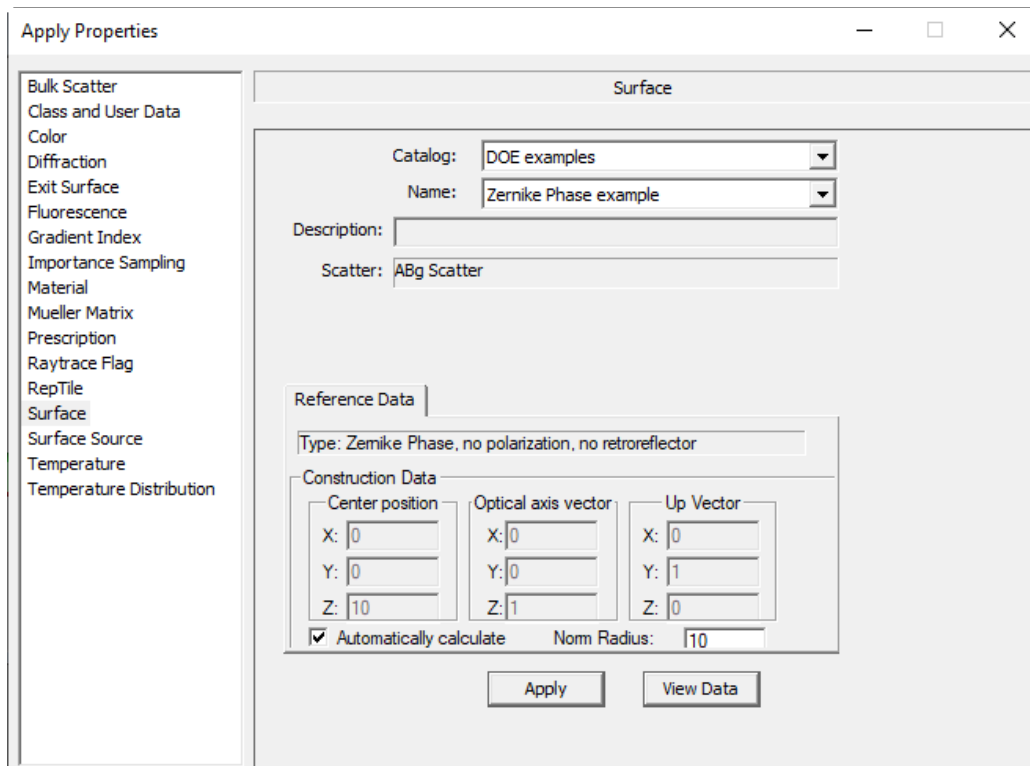

Figure 15. コンストラクションデータに対して自動計算をチェックした状態で例のゼルニケ フェーズサーフェス プロパティを適用します
9. In the **System Tree**, select *Surface 0* of the Lens Element you created earlier. Open the **Apply Properties** dialog box (**Define|Apply Properties...**), and select the **Catalog** and **Name** of the property you created. In the *Construction Data* box in the **Reference Data** tab, note that *Automatically calculate* is checked and calculated values for *Center position*, *Optical axis vector* and *Up Vector* are entered, as shown in Figure 15. Set the *Normalization Radius* to 10 to match the aperture radius of the surface. Click **Apply**.